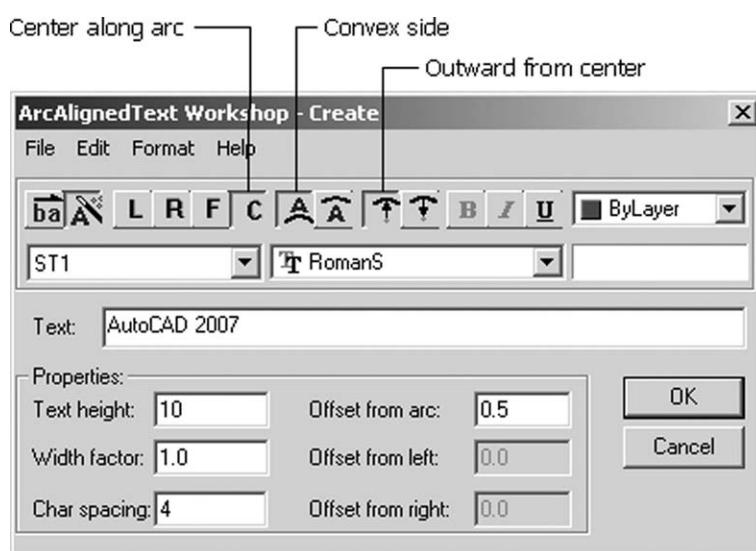

Figure 13.7 The ArcAlignedText – Create dialogue box.
9. Outward from center active – Figure 13.7